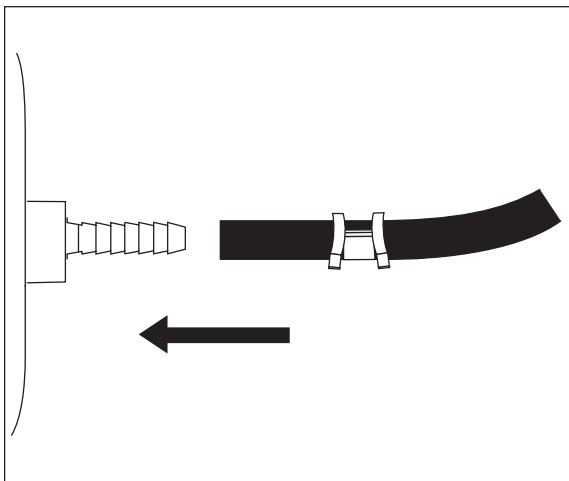

Figure 4
- g. Push the air line onto the stem, covering all the barbs. With pliers slide the air line clamp upward until it fully covers the barbed section (Figure 4).
- d. Slide air line clamp onto the cut air line. Push the air line onto the stem, covering all the barbed section. With pliers slide the air line clamp forward until it fully covers barbed section (Figure 4).